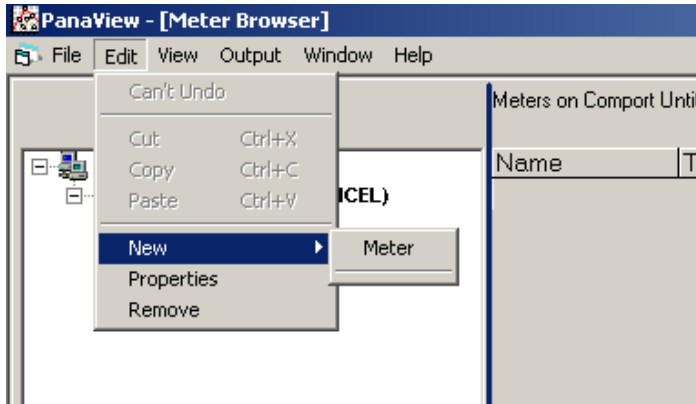

Figure 35: New option in the edit menu
2. Click on the new option in the *edit* menu (see *Figure 35* below).